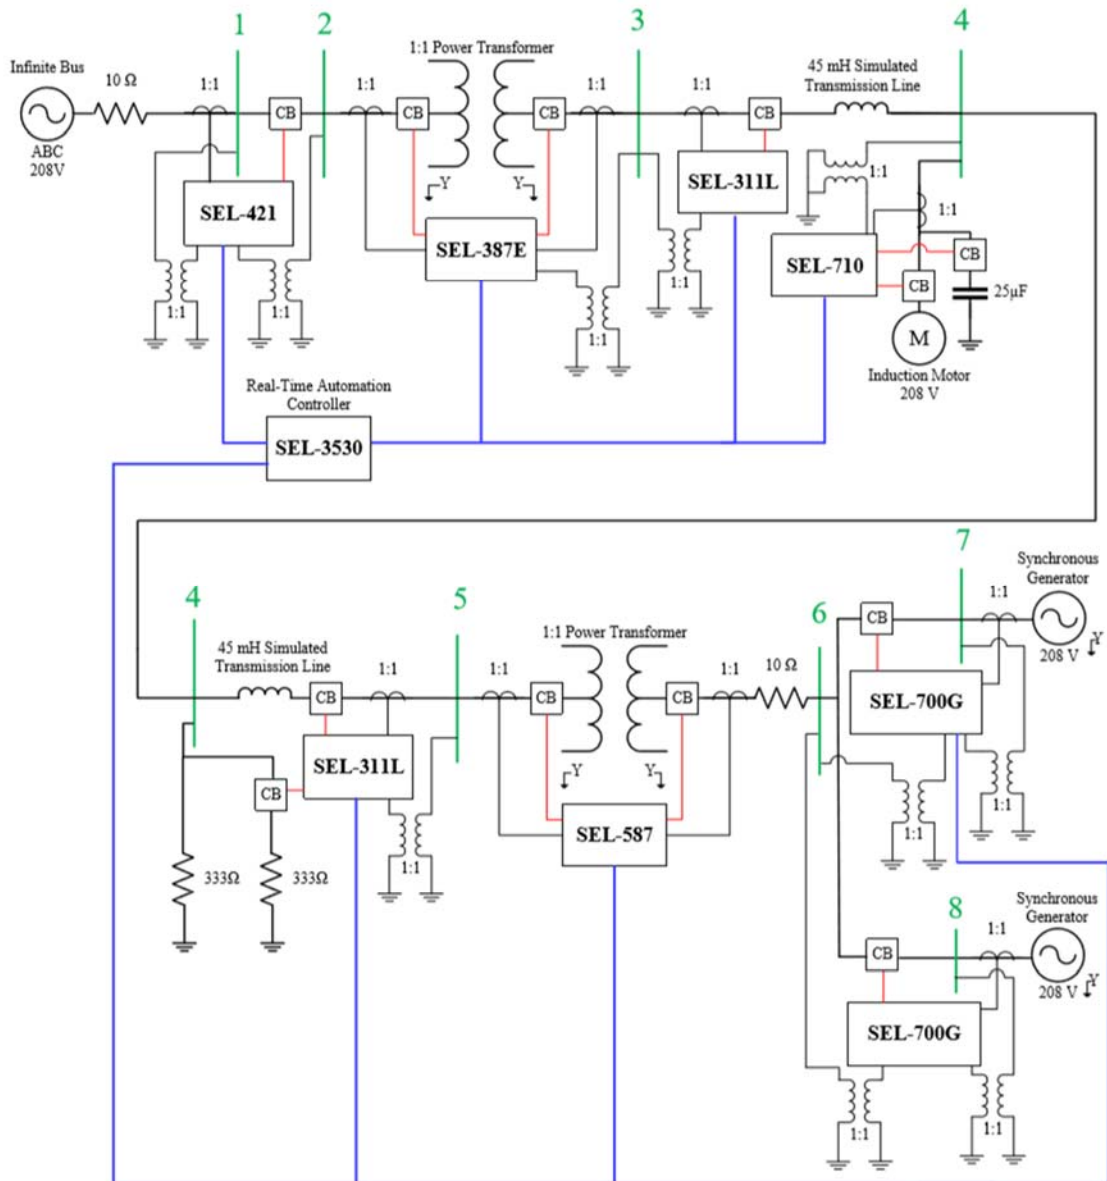
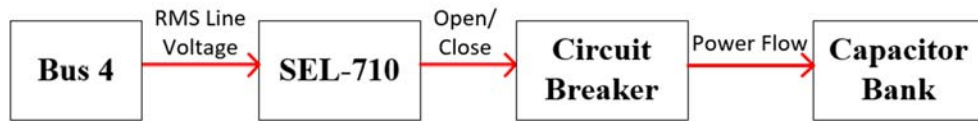

Figure 9: Microgrid One-Line Diagram
Figure 13: Capacitor Bank Automation
Figure 9 shows the proposed microgrid system. Expanding the basic system described in [15], this system removes the infinite bus on one side and replaces it with two parallel synchronous generators. It also adds a capacitor bank to supply reactive power to the motor that is automatically switched on and off using SEL-710. SEL-700G is added to protect the synchronous generators and provides the following functionality: synchronism-check, generator reverse power protection, generator under/over frequency protection, and loss of field protection. The RTAC automates load shedding and switches relay protection groups. The system models a basic microgrid with bidirectional power flow between the infinite bus and synchronous generators. A static load and induction motor in the middle of the transmission line model utility customers. Transformers with one-to-one ratios are used to model step up transformers commonly used in distribution and transmission. The three proposed experiments utilize additional circuits. The microgrid system in conjunction with the experiments satisfy the design requirements described in *Chapter 3*. The remainder of this chapter describes the protection and automation elements added to the microgrid system in addition to the content of the experiments.
tasks are automated: power factor correction, load shedding, relay group switching, utility synchronization, and generator synchronization. To support the voltage throughout the microgrid when the motor is running, a capacitor bank is added. The SEL-710 uses the under/over voltage element to automate the capacitor bank switching. Figure 13 shows the signal flow diagram for capacitor bank automation. When the voltage at bus four in Figure 9 drops below 174 volts (line to line), the capacitor bank is turned on. When the voltage rises above 214 volts (line to line), the capacitor bank turns off. These values are chosen experimentally by testing the voltages at bus four with the motor running and no power factor correction, and with the motor not running and power factor correction active. Table 7 shows the values used in Eq. (1) to calculate the value of the capacitance bank. Based on the calculation, a capacitance value of 25 μ F is selected. The power factor capacitors are connected in a wye configuration.